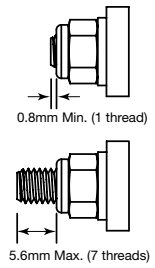

Figure 2
- Install the locknut so that one full thread is exposed beyond the locknut (figure 2).